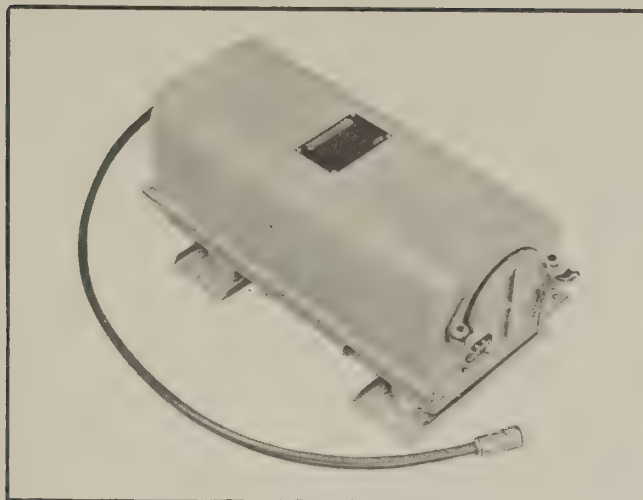

Figure 1-9. Tuned Cavity FR-66/UP
b. TUNED CAVITY FR-66/UP (See Figure 1-9)